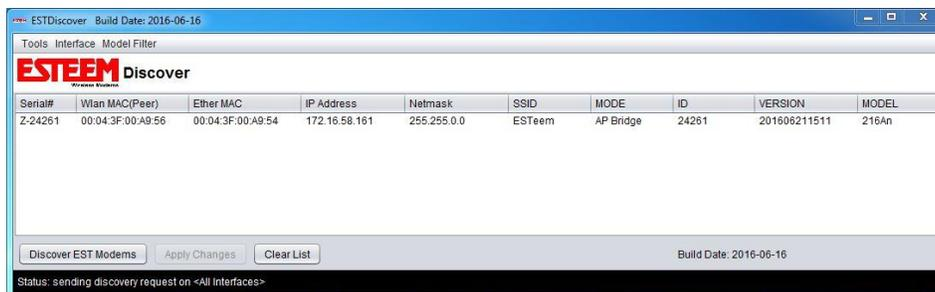

Figure 2: ESTeem Discovery Utility
4. The ESTeem Edge 900 will be displayed (Figure 2). If the ESTeem Horizon is not on the same IP subnet as the computer, double click on the IP, Netmask or Gateway and make the necessary changes. Press the *Apply Changes* button when complete.